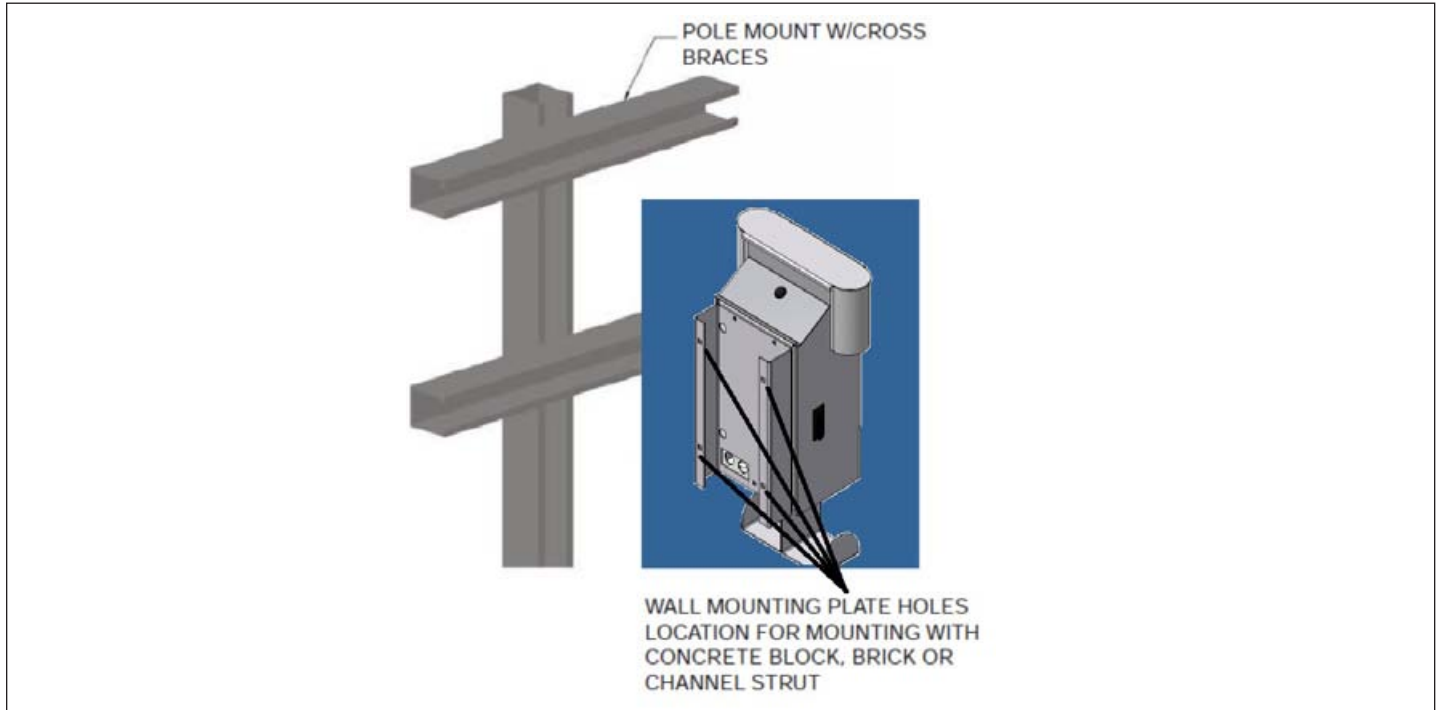

Figure 6. Typical Unistrut Mounting.
Step 3: Attach mounting plate as shown in **Figures 6 and 7**. Use appropriate hardware making sure it is galvanized or stainless steel for weather protection if mounting outdoors.